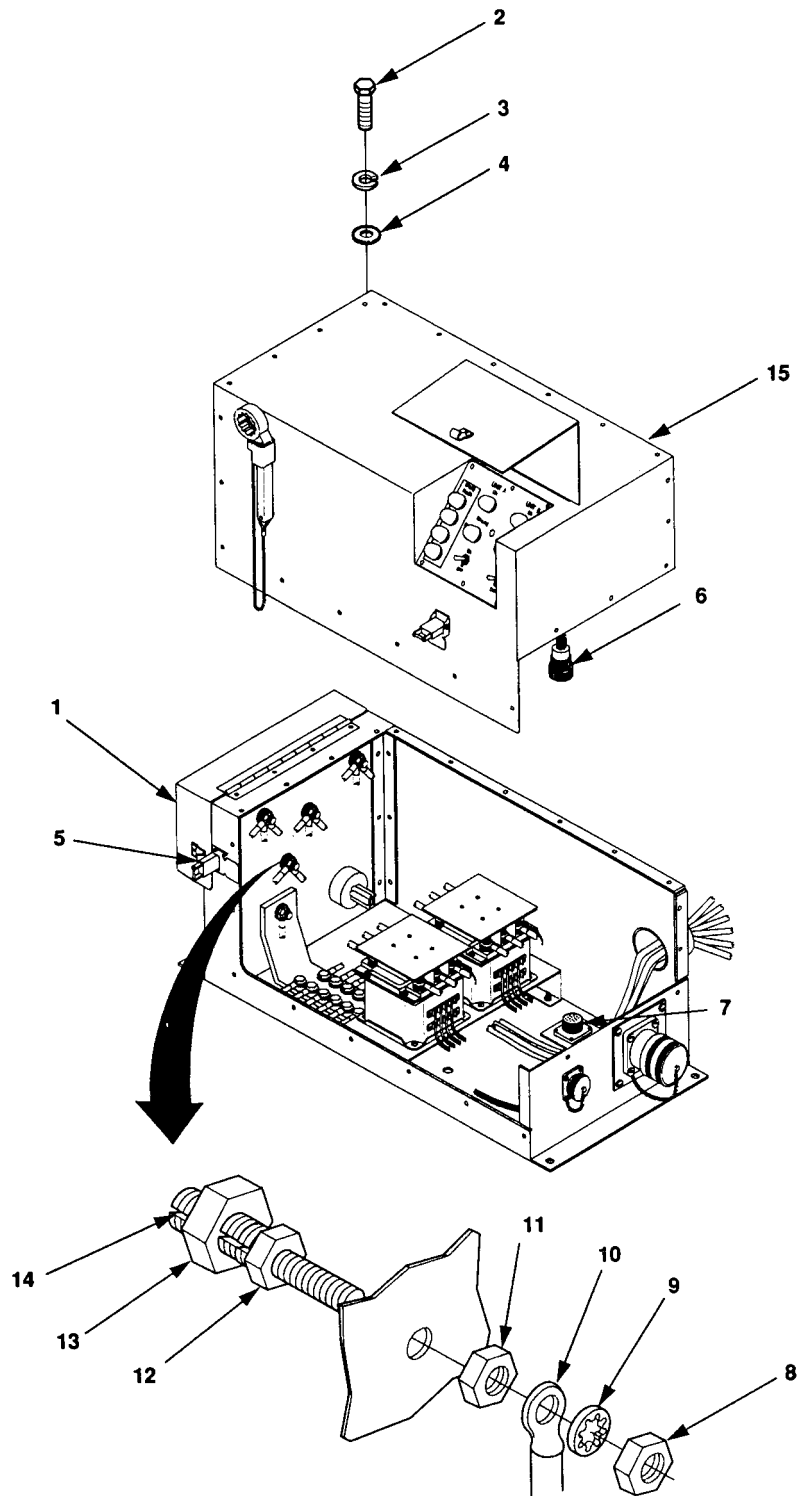

Figure 4-14. Switch Box Load Terminal Maintenance.
1. Remove 21 screws (2, figure 4-14), lock washers (3), and flat washers (4).
2. Release clamping catch (5) and open load terminal door (l).
5. Close load terminal door (1, figure 4-14) and secure with clamping catch (5).